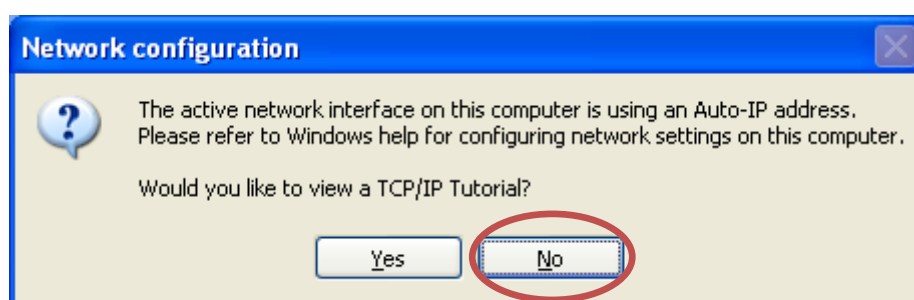

Figure 13 Device Installer pop up window
- Open **Device Installer**. If a message box comes up asking you to view a TCP/IP tutorial (Figure 13), click No.